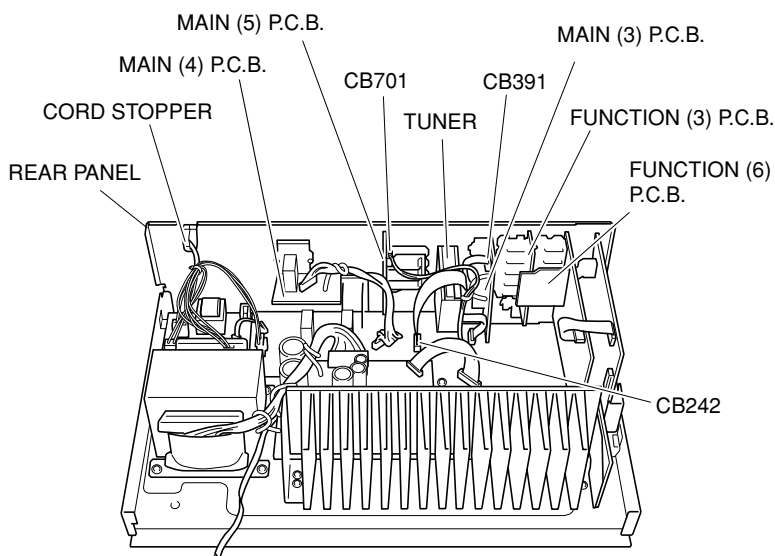

Fig. 2
3. Removal of MAIN (3) ~ MAIN (5), FUNCTION (3), FUNCTION (6) P.C.B.s and Tuner
- a. Remove CB242, CB391 and CB701. (Fig. 2)
- c. Remove MAIN (3), MAIN (5) P.C.B.s. and the Tuner. (Fig. 2)
- f. Remove Cord Stopper. (Fig. 2)
- g. Remove Rear Panel. (Fig. 2)
- h. Remove MAIN (4), FUNCTION (3) and FUNCTION (6) P.C.B.s. (Fig. 2)